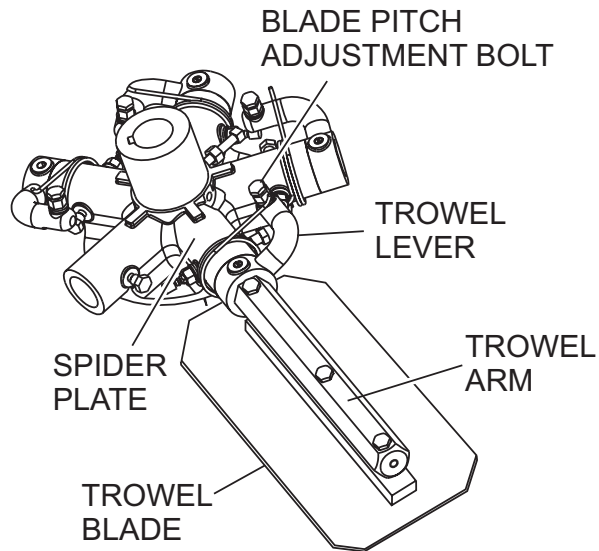

Figure 42. Blade Pitch Adjustment
1. Adjust blade pitch adjustment bolts as necessary to ensure machine operates smoothly (Figure 42).